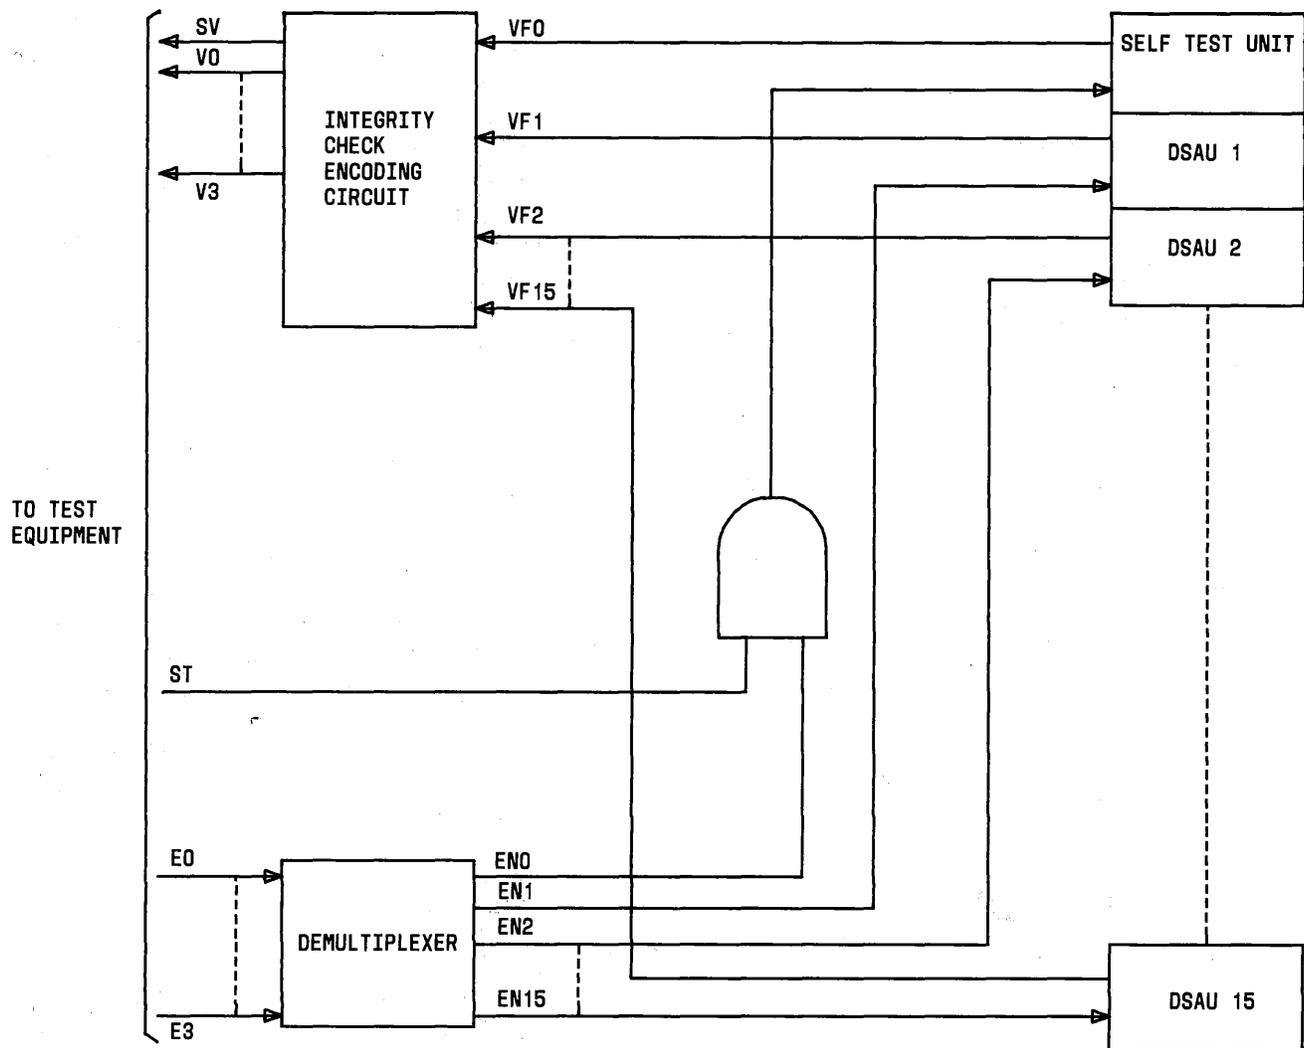

Fig. 6—Address and Verification Circuitry
3.19 The addressing and verification circuitry (Fig. 6) permits communication between the test equipment and any selected DSAU. The addressing circuitry (demultiplexer) decodes a 5-bit enable address from the test equipment, activates the appropriate enable signal, and connects the selected DSAU to the shelf bus. The verification circuitry (integrity check encoding circuit) indicates to the test equipment which DSAU is connected to the bus by transmitting to the test equipment an encoded 5-bit address. The verification circuitry also detects the faulty condition where two or more DSAUs are connected to the shelf bus at the same time, and sets each bit of the 5-bit address to a binary one state which identifies this condition.